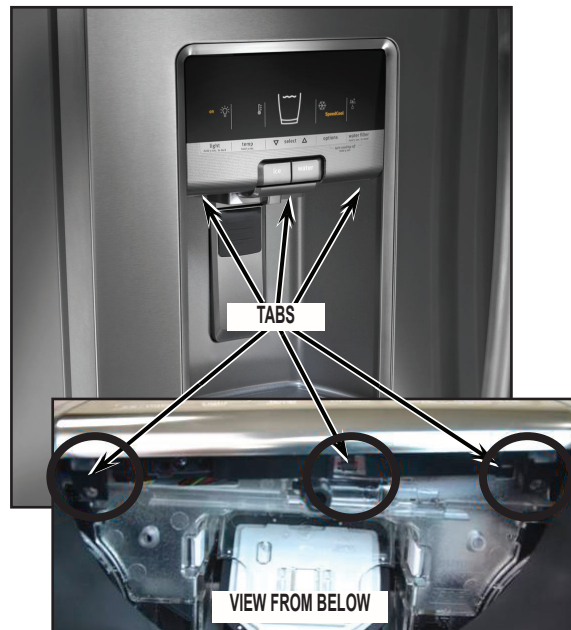

FIGURE 1
- To remove user interface (UI) assembly, insert small screwdriver to depress black tabs on underside of UI in these 3 locations. See *Figure 1*.